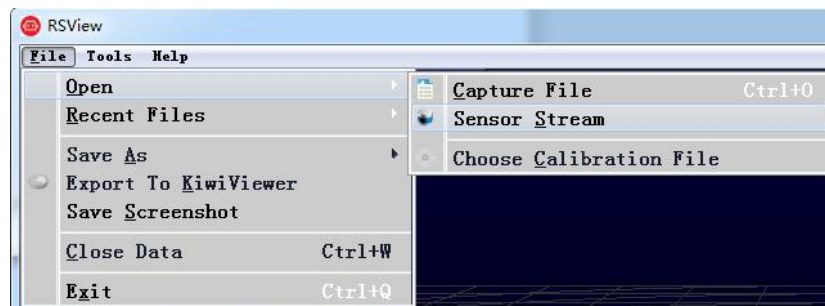

Figure C-1 RSView Open Sensor Stream
3. Click on **File > Open** and select **Sensor Stream** (Figure C-1).